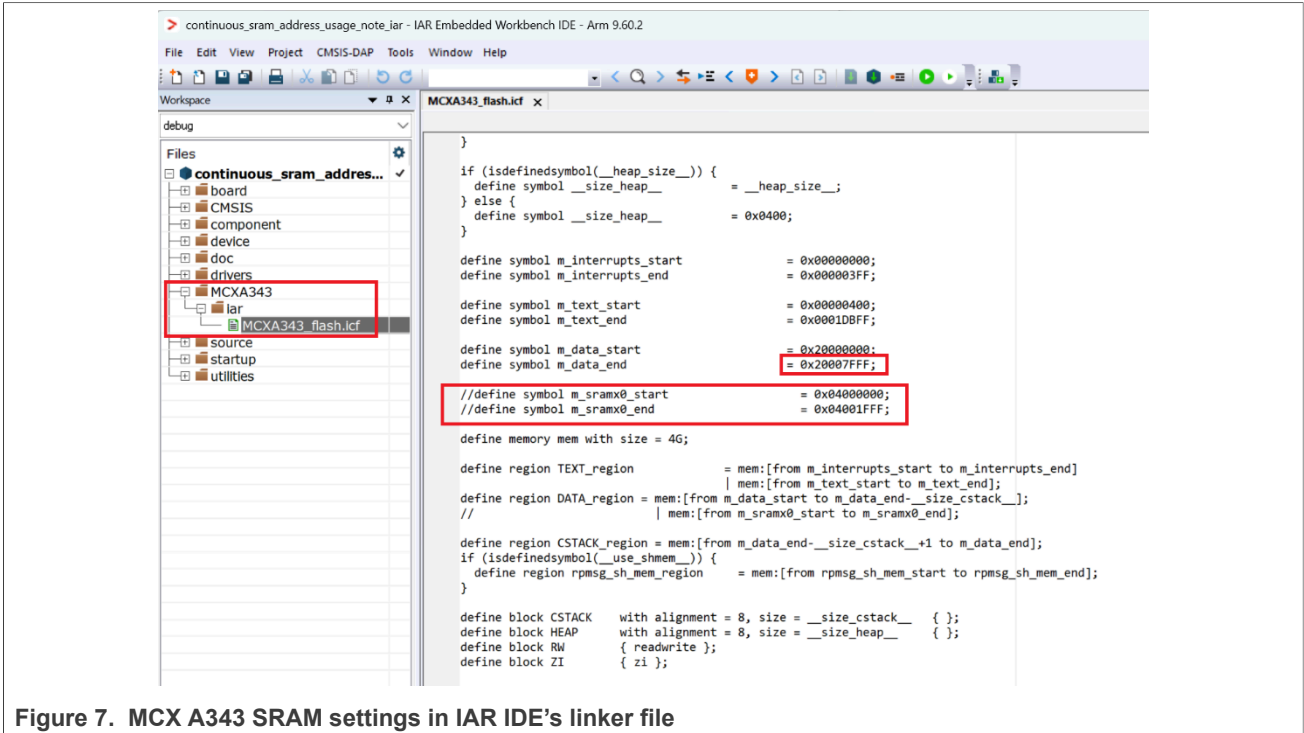

Figure 7. MCX A343 SRAM settings in IAR IDE’s linker file
- For MCX A343, as shown in Figure 7: